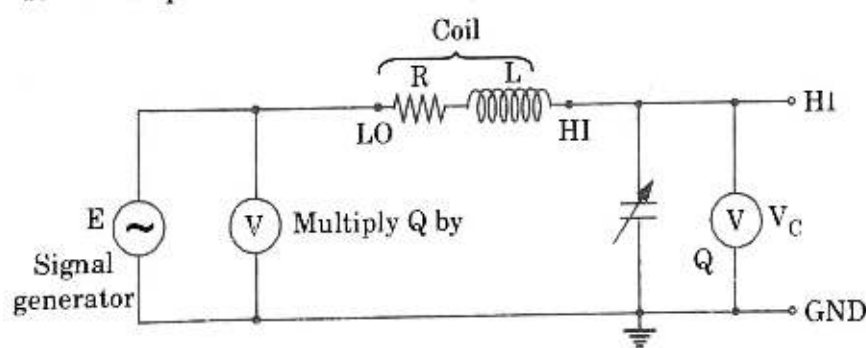

Fig. 4.17.1. Circuit diagram of Q meter.
1. The basic circuit of a Q meter as shown in Fig. 4.17.1 consists of a variable calibrated capacitor, a variable-frequency AC voltage source, and the coil to be investigated. All are connected in series.
2. The capacitor voltage (V_C) and the source voltage (E) are monitored by voltmeters.